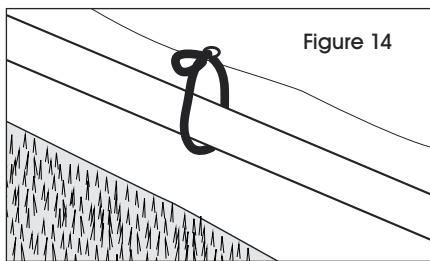

Figure 14
- To complete your canopy, secure the top down each side on the bottom pipe and around each end with ball straps. (See Figure 14)